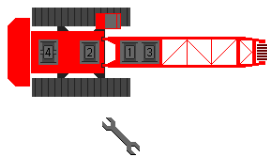

FIGURE 3-27
2. Scroll to the setup screen with the wrench icon shown in (Figure 3-27).